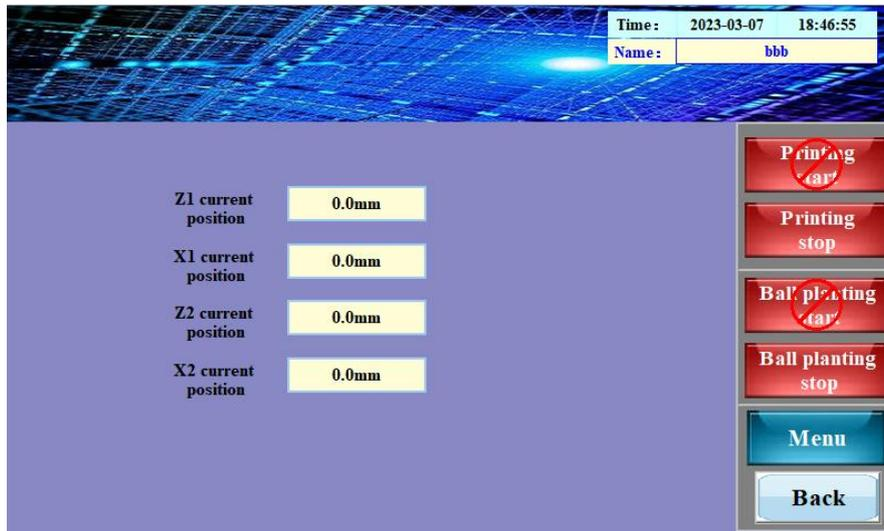

Figure 3
2. After entering the password, click the confirmation button to enter the "Debug mode" as shown in (Figure 3).